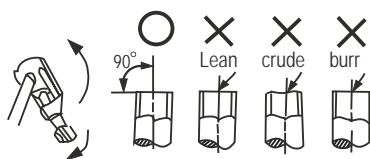

Fig.6-4
- Cut a pipe with a pipe cutter. (refer to Fig.6-4)